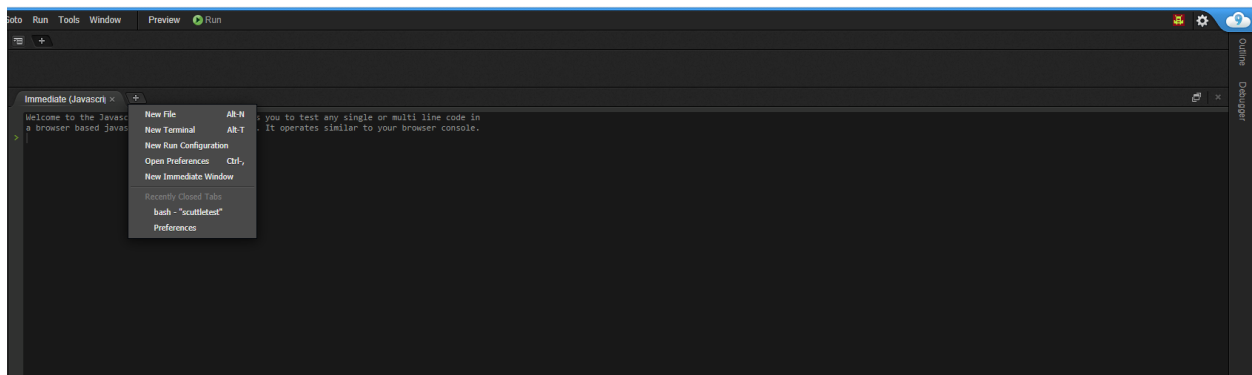

Figure 5
2. Then start a new bash terminal by clicking the (+) and selecting *New Terminal* like Figure 5.